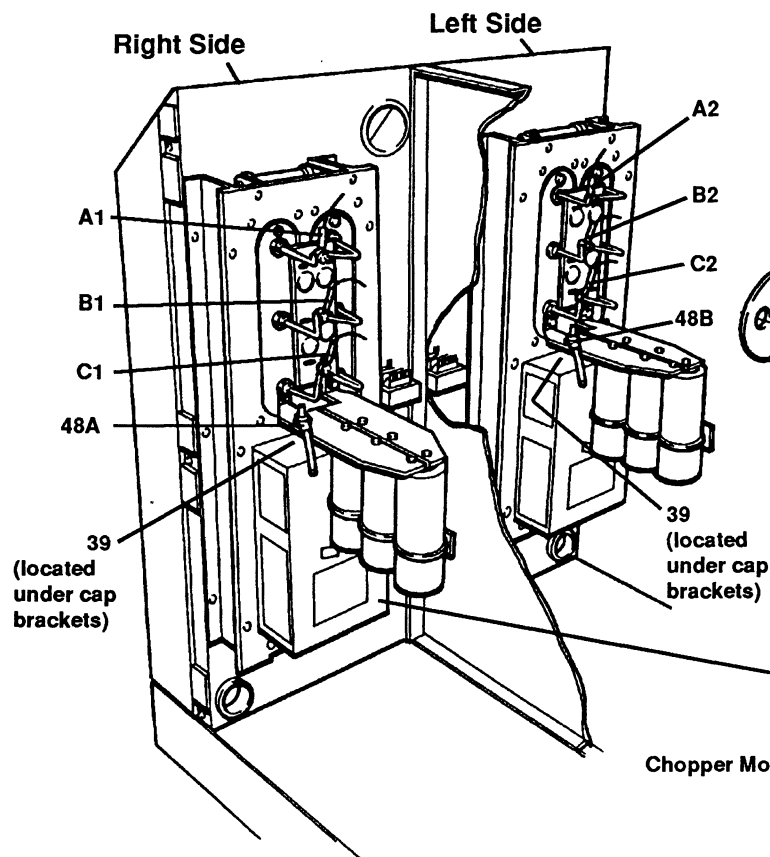

Figure 1-2 - Power Supply - Inside Front Wall
3. Remove output cables labeled 39 and 48A from the right side chopper assembly and/or cables 39 and 48B from the left side chopper assembly. See Fig. 1-2.
4. Remove three-phase input cables labeled A1, B1 and C1 from the right side chopper and/or cables A2, B2, and C2 from the left side chopper assembly. See Fig. 1-2.